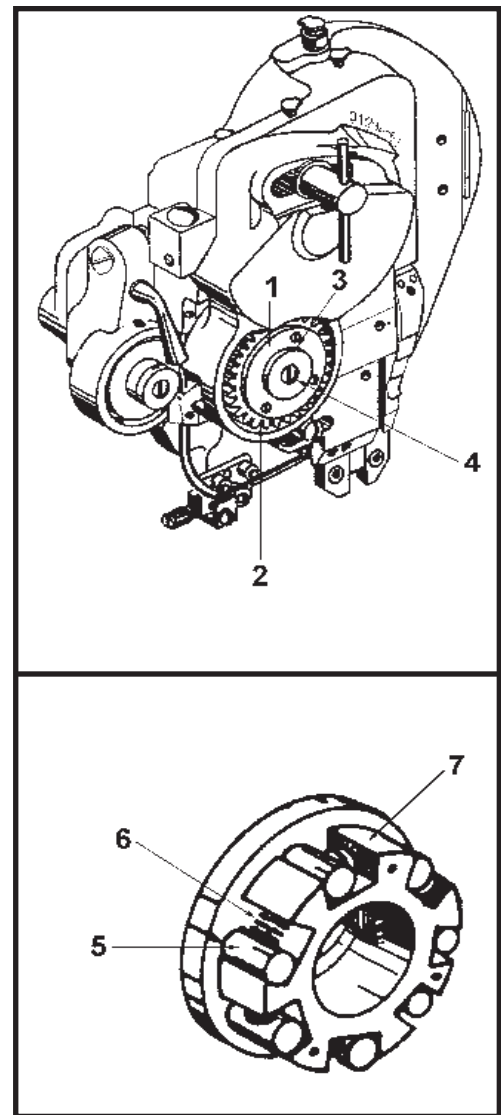

Figure 16-Removing and Assembling the Wire Feed Clutch
H. WIRE FEED CLUTCH (See Figure 16)-The wire feed clutch (1) is a friction roller type of clutch that operates (grips) on the wire feed stroke, counter-clockwise rotation of the clutch ring gear (2), and slips on the return stroke. If the clutch slips on the wire feed stroke, causing uneven wire feed, it is probably due to excessive clutch lubrication. In this event the clutch assembly should be removed and washed with solvent. Be sure to relubricate clutch after clutch is reassembled in head. The clutch is lubricated by an oil hole in the retaining washer (3).
1. Remove the retaining washer screw (4) and the retaining washer (3). Slide the clutch assembly from the wire feed drive gear stud (hidden).
2. If clutch is disassembled make sure that clutch rollers and springs, (5) and (6), are reassembled in the clutch spider (7) as shown in the lower portion of Figure 16.